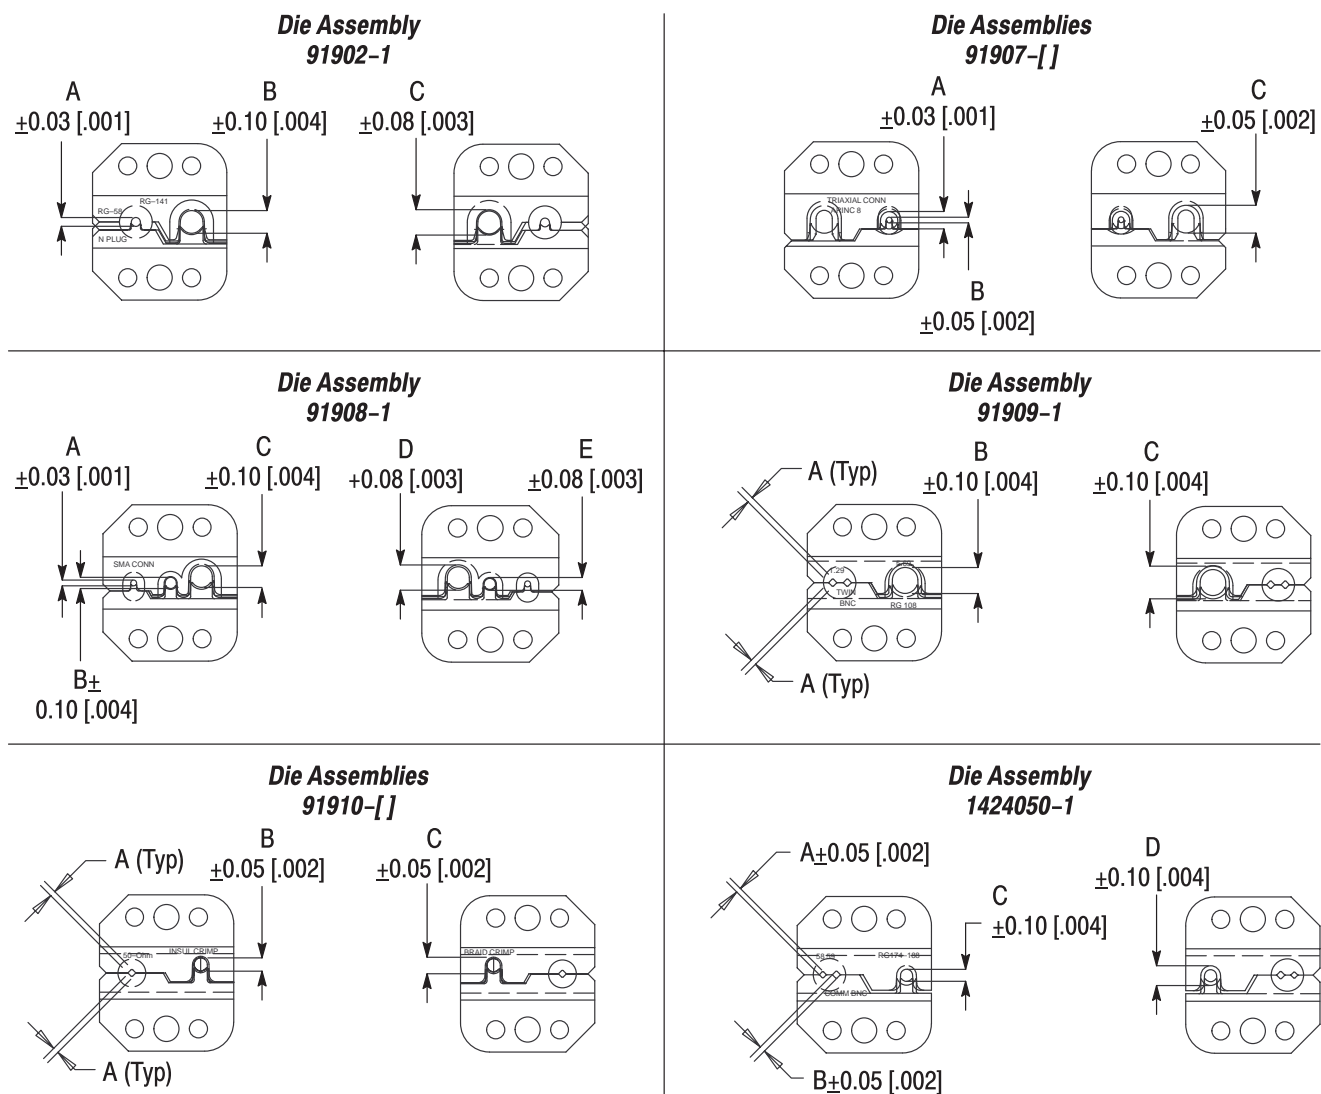

Figure 5
4. Measure the die opening to ensure that it meets the dimensions given in Figure 5.